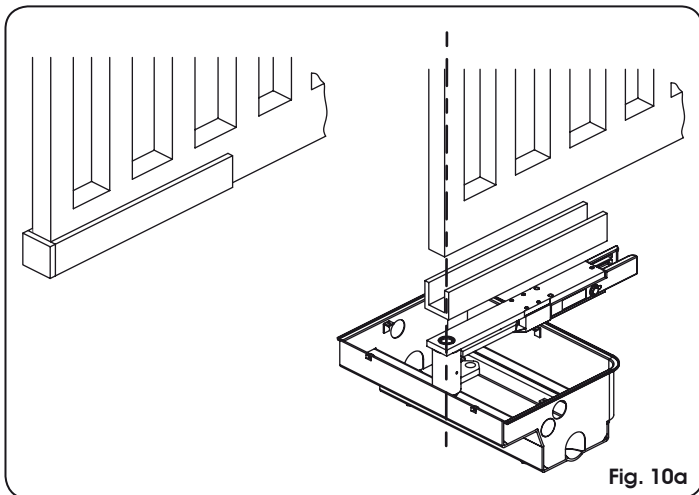

Fig. 10a
- ascertain the correct location of the leaf on the "U" profile with reference to the axis of rotation (Fig. 10a or 10b) ; seal the "U" profile on the post side with a plate, as shown in Fig. 10a or 10b.